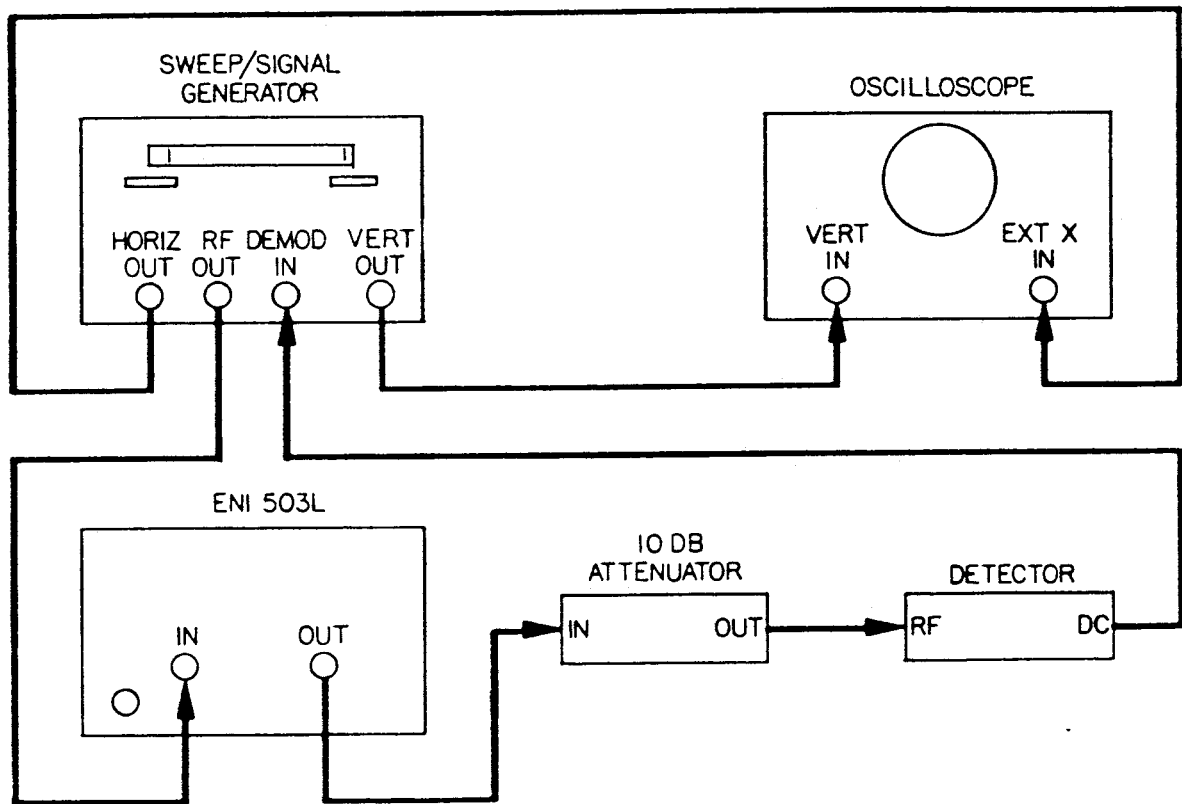

Fig. 4.1 Gain Measurement
Connect the equipment as shown in Figure 4.1, then proceed as follows:
- (g) Reconnect the 503L into the test set-up of Figure 4.1.